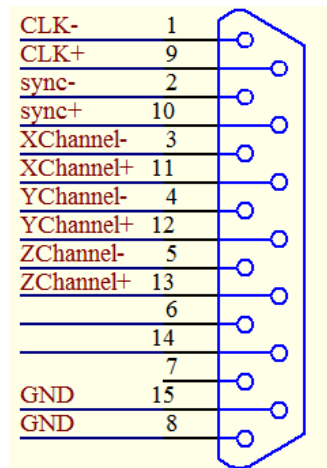

Figure 2.4 Schematic diagram of CON3
**CON3—galvanometer interface:** The galvanometer interface (CON3) supports the enhanced XY2-100 data protocol for driving 2D/3D galvanometers. The interface type is 15-pin double-row pin (female, 2.54mm pitch), The definition is shown in Figure 2.4 and Table 2.2.